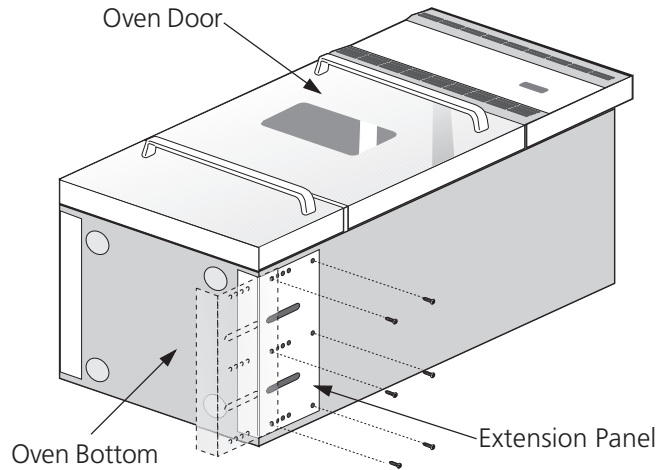

Figure 5
1. Lay oven on its back (see figure 5).